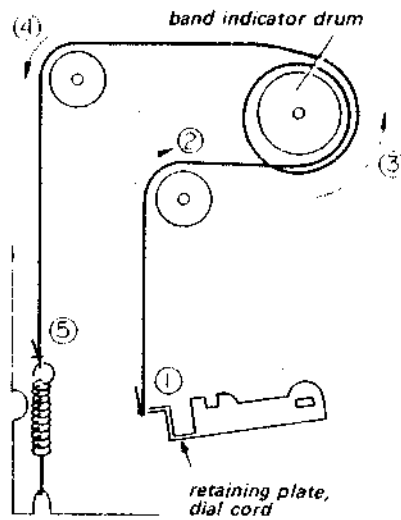

Fig. 2-24 Band-selector dial cord restringing
3. String the cord as shown in Fig. 2-24 and hook the spring to the slot of the chassis. Perform the steps in the numerical order.